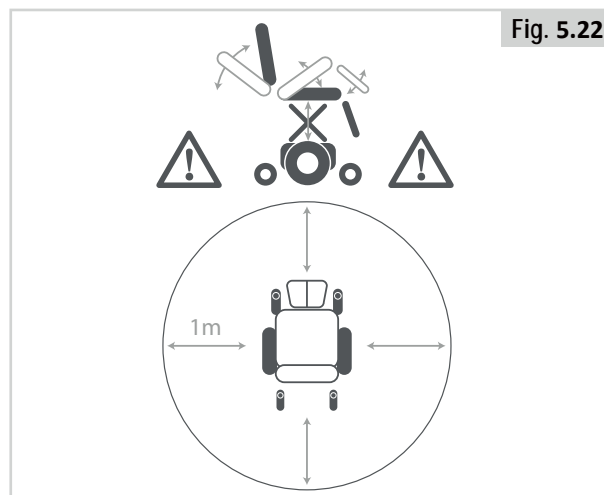

Fig. 5.22
- Always ensure that the legrests or foot plates do not come into contact with the castors before driving the wheelchair (Fig. 5.22).